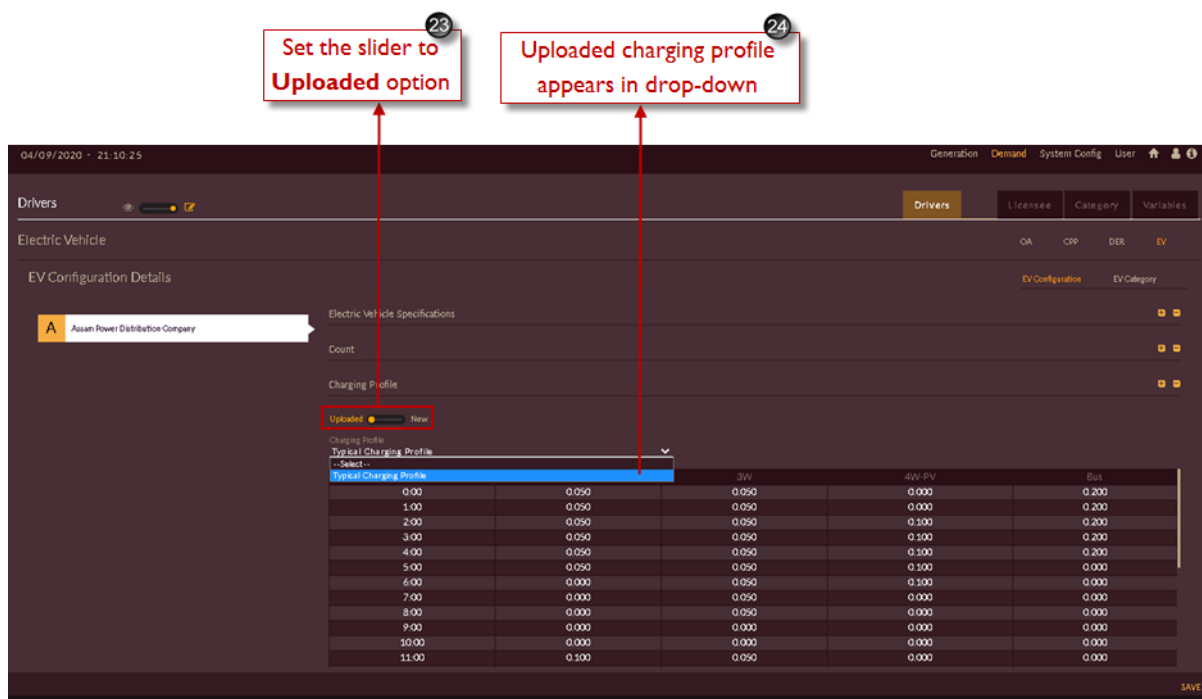

Figure 59. Uploaded Charging Profile
23. Set the slider to **Uploaded**  **New** option as shown in Figure 59.